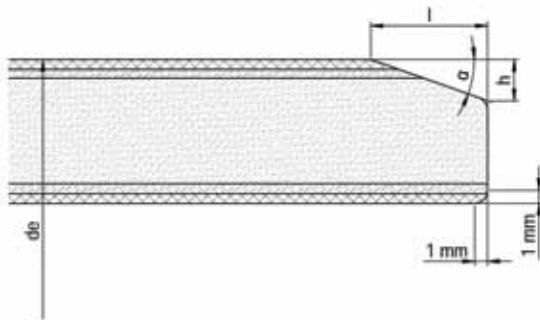

Fig. 55: Illustration of the required chamfering of the pipe spigot
5. Chamfer the cut edge on the outside of the pipe and round the edges with a diamond grinding disk (Figure 55).